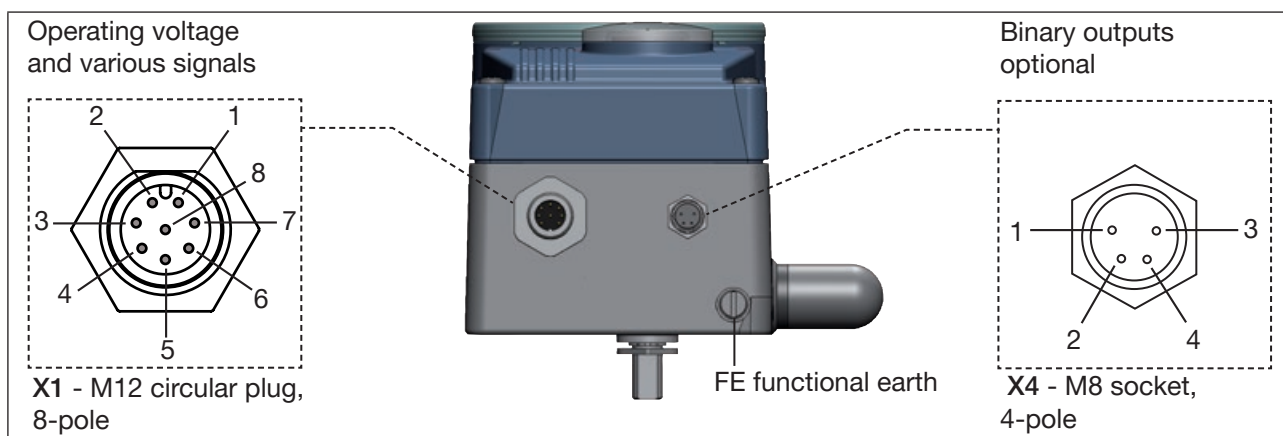

Figure 20: Type 8792; designation of the circular plug-in connectors and contacts
*** Position of the switch, see “Figure 20: Type 8792; designation of the circular plug-in connectors and contacts”